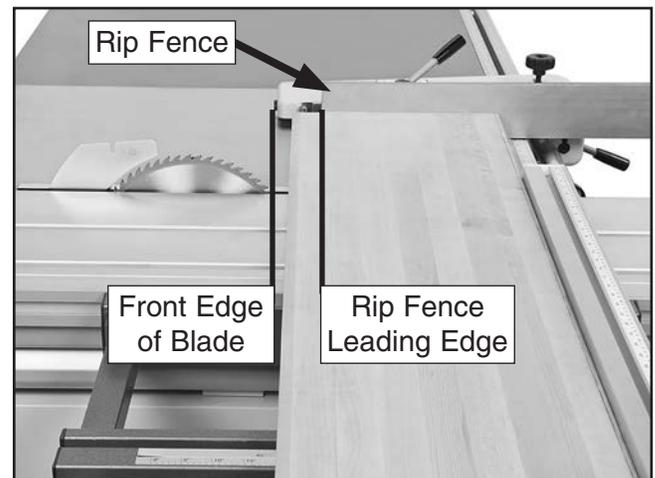

Figure 108. Proper rip fence position when using it as a cut-off gauge.
- Position the rip fence for the desired width-of-cut, then slide the leading end of the rip fence behind the front edge of the main blade, as shown in **Figure 108**.